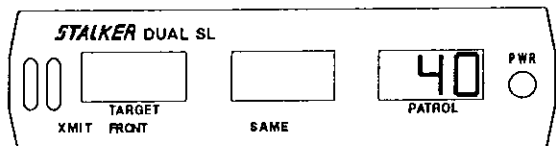
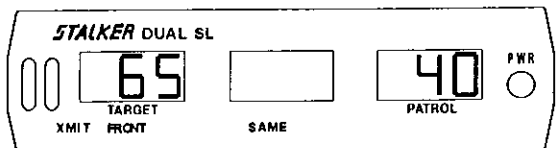

Fig 36
Fig 37
Two (2) tuning forks are supplied for **STALKER DUAL SL**. The tuning forks are calibrated for 25 mph and 40 mph (40 and 64 kph). To perform the tuning fork test, power the unit ON, select moving mode, and same lane mode. Select the front antenna, and place the unit in transmit mode. Strike both tuning forks against a hard nonmetallic surface, such as the heel of a shoe. Quickly hold the higher speed fork approximately two (2) inches in front of the antenna, with the narrow edge of the fork facing the antenna. The patrol window should indicate  $40 \pm 1$  mph (64 kph) (Fig 36). Move the lower speed fork in front of the antenna with the narrow edge facing the antenna. The target window should register 65 mph  $\pm 2$  (104 kph) (Fig 37), which is the sum of the speed of the two forks. Repeat the above test with the rear antenna selected, if installed.